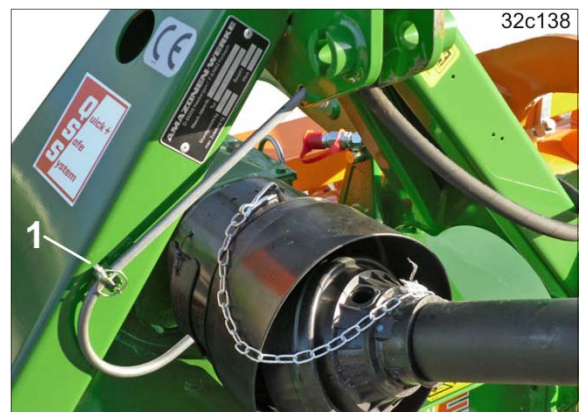

Fig. 89
12. Fasten the bracket to the transport bracket and secure it using a lynch pin (Fig. 89/1).